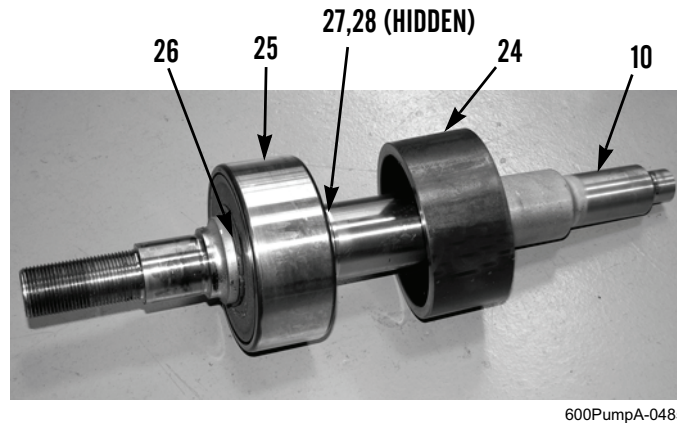

Figure 11. Bearing on Impeller Shaft.
18. Remove spacer (Figure 11, Item 24), retaining rings (Figure 11, Items 26 and 28), and spacer (Figure 11, Item 27) from impeller shaft (Figure 11, Item 10). Discard retaining rings.
19. Use an arbor press and a suitable sleeve to remove bearing (Figure 11, Item 25) from impeller shaft (Figure 11, Item 10). Discard bearing.